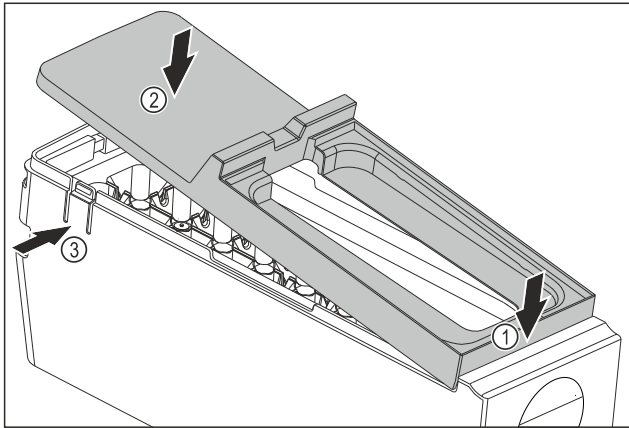

Fig. 133
- ▶ Installing the EasyTwist-Ice body cover: Place the cover on the front. Fig. 133 (1)
- ▶ Lower the cover at the rear. Fig. 133 (2)
- ▷ The cover locks into both tabs Fig. 133 (3) audibly.